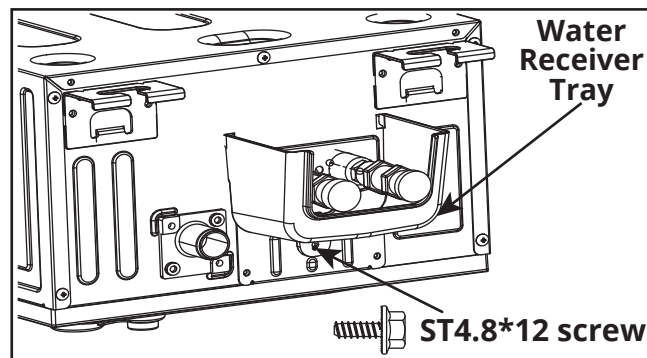

Fig. 5.15
1. Position the water receiver tray beneath the connectors and secure it into place with a ST4.8*12 screw (refer to Fig. 5.15). **NOTE: Two ST4.8*12 screws are included, one of them is to be kept as a spare.**